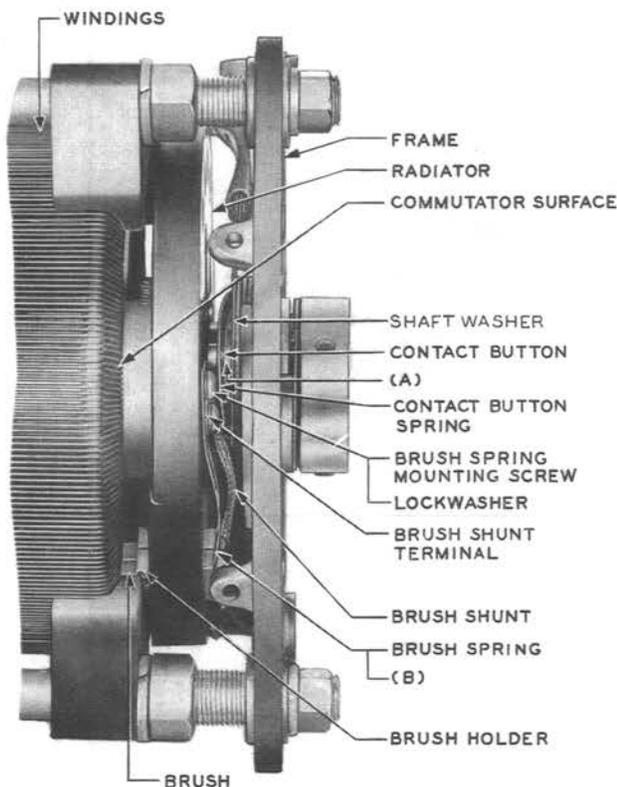

Fig. 2 — KS-15646 Autotransformer — Cover Removed
**\*2.05 Clearance Between Shaft Washer and Contact Button Spring (KS-15646 Auto-transformer):** Fig. 2(A) — The clearance between the shaft washer and the contact button spring, adjacent to the projecting portion of each contact button, shall be
**2.08 Clearance Between Radiator and Brush Springs (KS-15646 Autotransformer) (After Turnover Only):** Fig. 2(B) — The clearance between the radiator and the brush springs, where the springs enter the brush holder slots, shall be